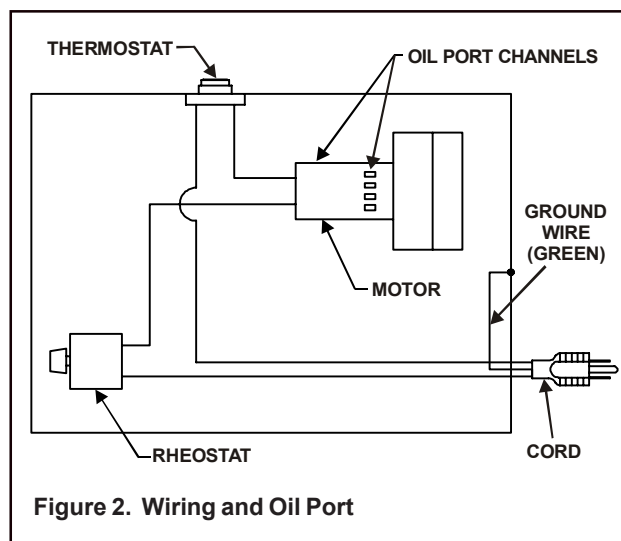

Figure 2. Wiring and Oil Port
3. This unit is equipped with a three (3) wire ground cord for protection. **Never** remove the ground lead. Be sure the electrical plug provided is plugged into a proper three (3) prong outlet. If an extension cord is used, be sure it has the proper ground and is of the same or greater value than the cord provided on the Grate Heater. If the extension cord is too light the fan may fluctuate its speed and operate improperly.
5. Under normal use the blower on the Grate Heater should be oiled every 4,000 hours of operation. There are 2 oil port channels on the top of the motor housing where 2 drops of a "3-in-one" type general purpose lubricating oil can be applied (see Figure 2).